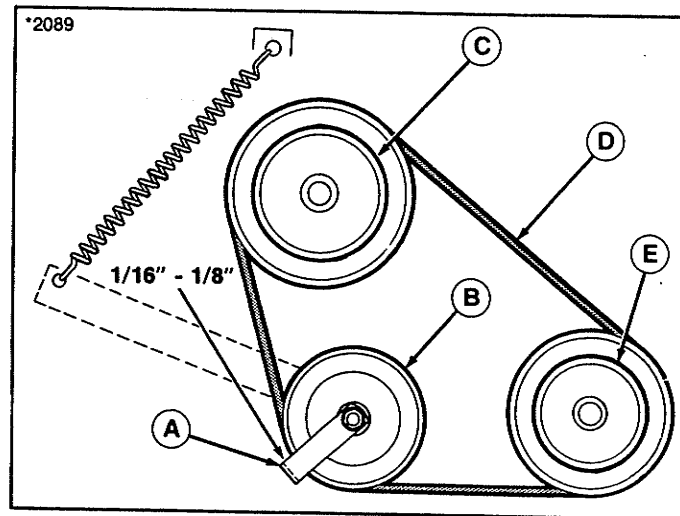

Figure 35.
The belt retainer (A, figure 35) should be from 1/16" to 1/8" from the idler pulley (B). It should be positioned so that it tends to push the belt out of the engine pulley (C) when the PTO lever is disengaged. Belt retainer should not pinch or bind the belt when PTO is engaged.